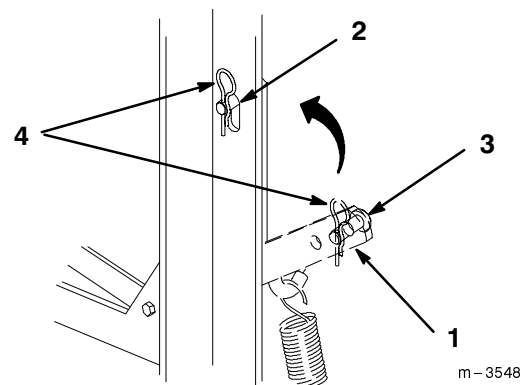

Figure 41
3. Push up on the spring loaded idler arm, behind blower on lefthand side of unit, to relax pressure on clevis pin (Fig. 41).
4. Remove hairpin cotter and clevis pin from slot in frame and allow idler down, to tension belt (Fig. 41).
5. Install hairpin cotter and clevis pin in outer hole of idler arm for storage (Fig. 41).